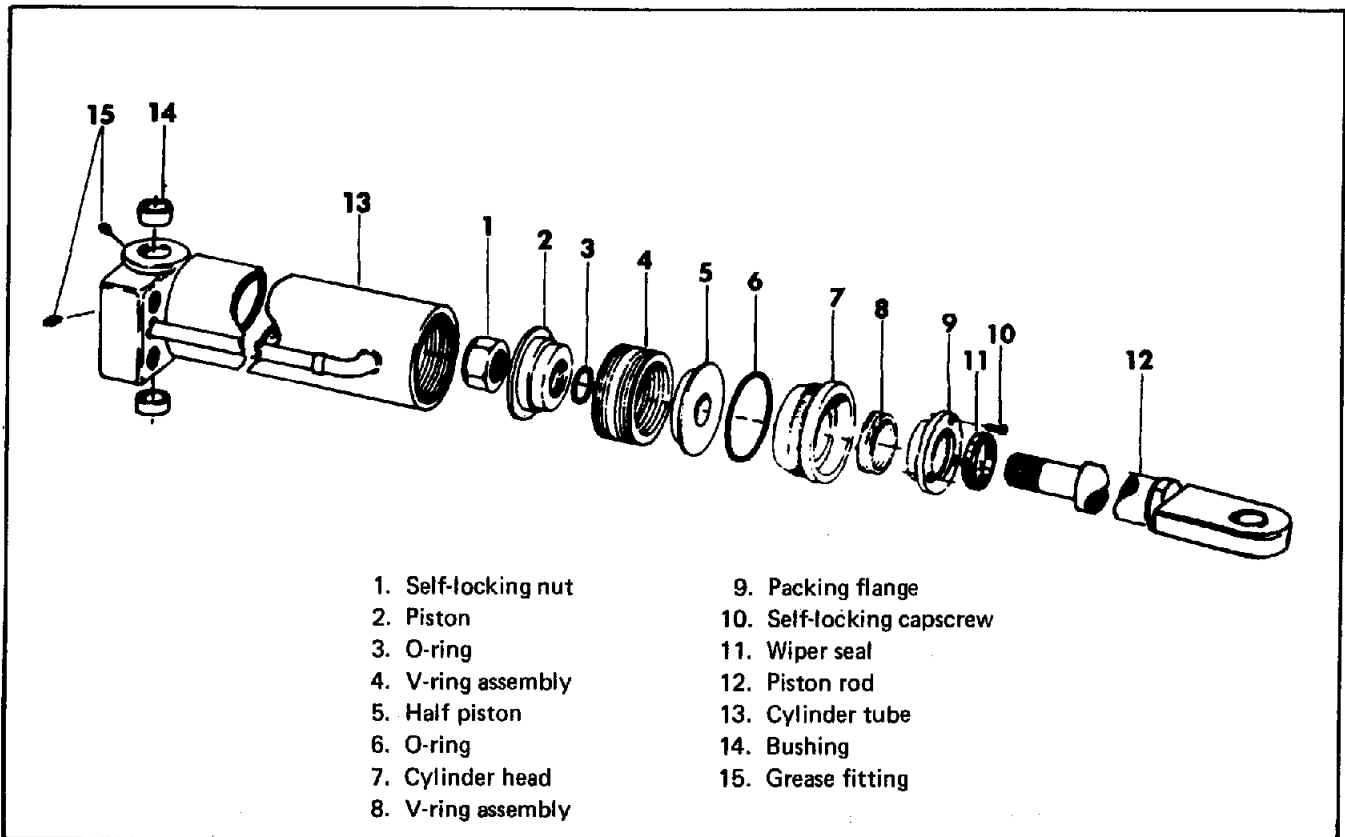

Figure 39. Steering Cylinder
Overhaul of the steering cylinder should be attempted only if adequate tools and a clean work area is available. (Number callouts refer to Figure 39.)
1. Grease O-ring (3 and 6, Figure 39) with lubricate, or equivalent.
2. Coat piston rod (12) with a light coating of oil.
4. Assemble items (2 through 11) on piston rod (12) and torque self-locking nut (1) to 600 ft-lbs. (813 Nm).
5. Carefully insert rod in cylinder and tighten cylinder head (7) with spanner wrench. Do not tighten the packing flange screws (10) until the cylinder has been installed on the machine.